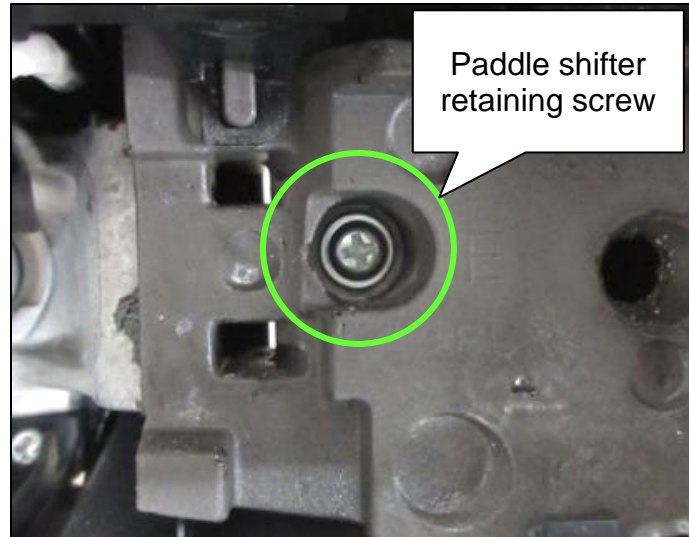

Figure 7
- Using the #2 Cross-head screwdriver, remove the one (1) Paddle shifter retaining screw from the front side of the steering wheel, as shown in Figure 7.